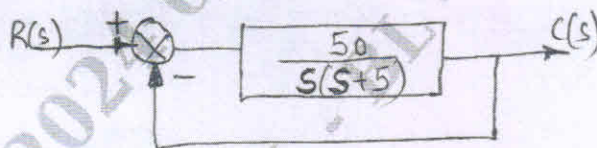

Fig. Q4 (b)
- b. For the control system shown in Fig. Q4 (b), find the percentage overshoot and settling time for a unit step input.